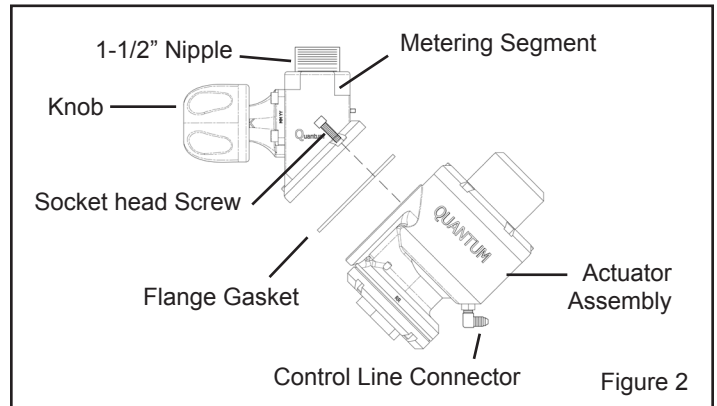

Figure 2
**2.5** Remove the four socket head screws holding the metering segment to the actuator, and remove the actuator assembly as shown in Figure 2.
**2.10** On AQV valves only, connect the control line to the elbow on the bottom of the actuator assembly, shown in Figure 2.
**4.3.13** Place the two flat washers and spring over the piston stop as shown in Figure 2.